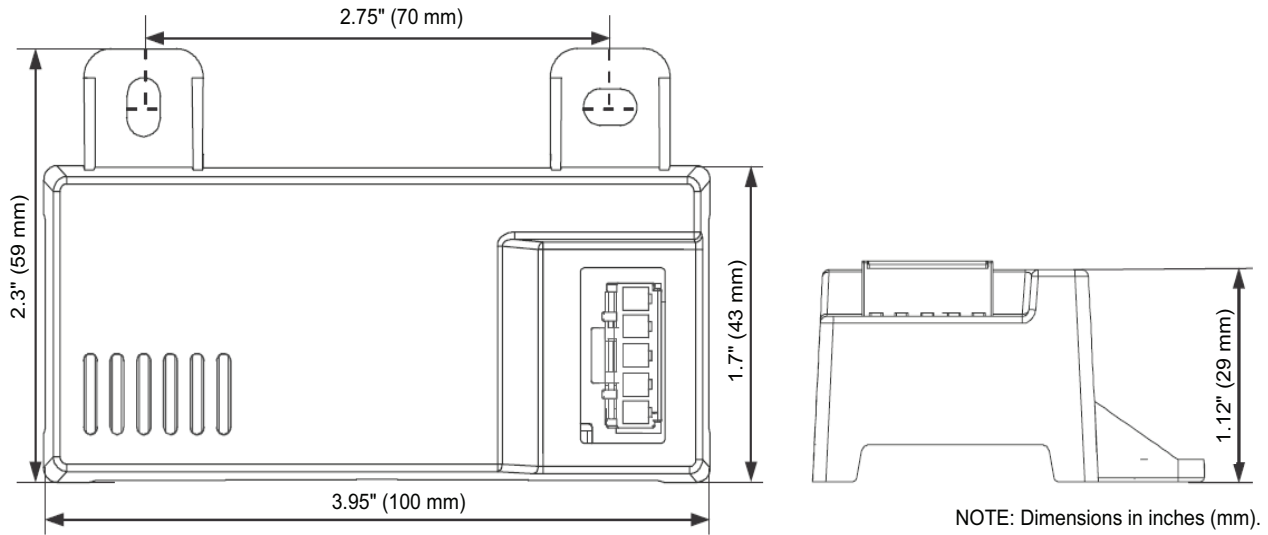
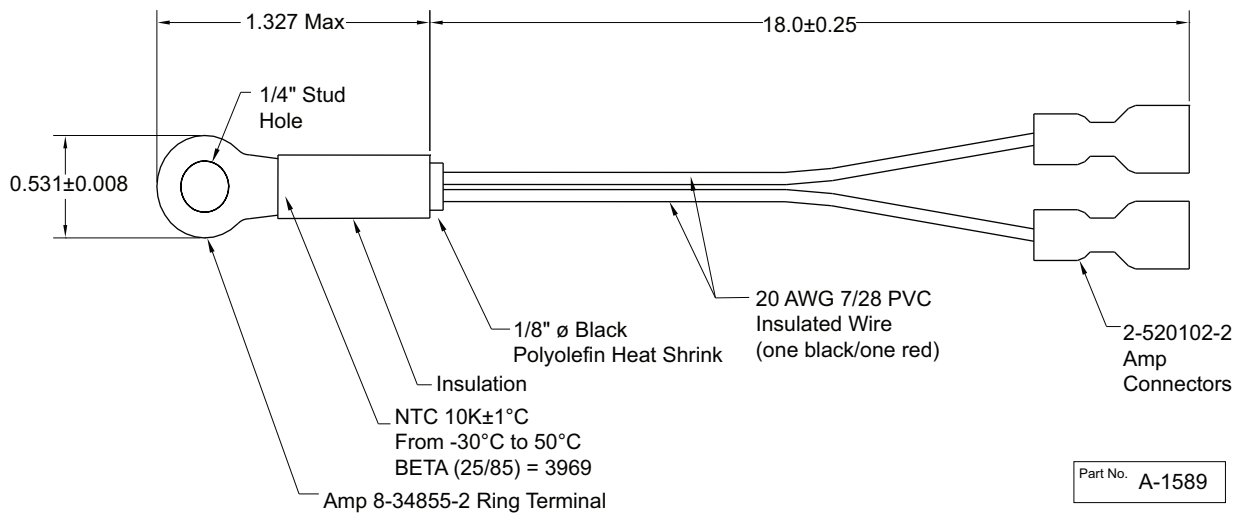
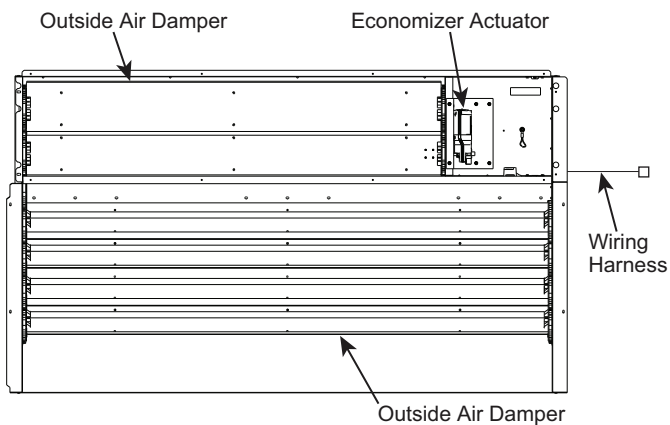

Fig. 76 – HH57LW001 Dimensional, Connection and Switching Information
Fig. 77 – HH79NZ039 Dry Bulb and Mixed Air Sensor Wiring
Fig. 78 – EconomizerONE System Component Locations
When using the HH57LW001 enthalpy sensor (see Fig. 76) for outside air changeover, the existing HH79NZ039 dry bulb sensor (see Fig. 77) must be removed. The enthalpy sensor will be mounted in the same location as the dry bulb sensor (see Fig. 78). When the enthalpy sensor's OA (Outside Air) temperature, enthalpy, and dew point are below their respective set points, outside air can be used for free cooling. When any of these are above their set point, free cooling will not be available. Enthalpy set points are configurable and create an enthalpy boundary according to the user's input. For additional details, see Fig. 79-80 and Table 24.
The optional enthalpy control sensor (P/N: HH57LW001) communicates with the POL224 economizer controller using the 5-wire harness, 48TC005213. The HH57LW001 sensor can be used as a single outside air enthalpy, a differential return enthalpy, or a differential return temperature sensor. Refer to the base unit control wiring diagrams found earlier in this book to wire the HH57LW001 enthalpy sensor for each option. See Fig. 76 and Table 26 on page 70 to locate the wiring terminals for each enthalpy control sensor.
Economizers are shipped standard with an HH79NZ039 outside air dry bulb sensor (refer to Fig. 77). System default setting (high temp limit) is 63°F (17°C) and has a range of 48°F to 80°F (9°C to 27°C). Sensor is factory installed on economizer.
If installing the optional HH57LW001 enthalpy sensor, the HH79NZ039 dry bulb outside air sensor must first be removed. Wire sensor to harness 48TC005213 and the (5) wires from the harness to the EconomizerONE harness in the return air chamber. Harness 48TC005213 has a 5-pin plug that connects directly to the HH57LW001 enthalpy sensor. Refer to the base unit control wiring diagrams earlier in this book for wiring connections. Refer to Fig. 76 and see Table 26.